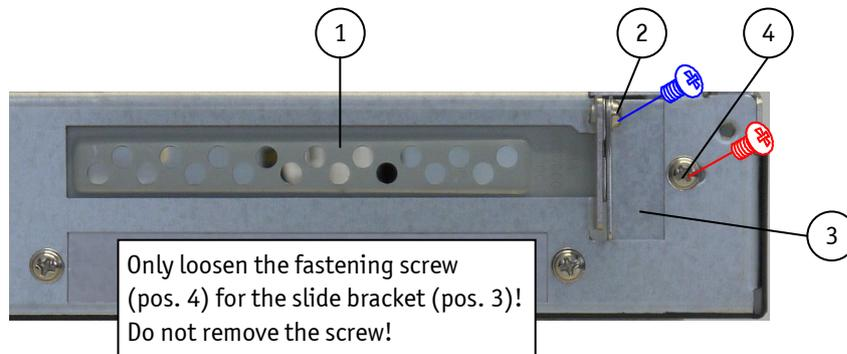

Fig. 17: Detail: Rear side with slide bracket closed (for fixing the expansion card/slot bracket)
5. In order to remove the slot or card bracket, remove the screw (Fig. 17, pos. 2). Retain the screw for later use. Loosen (turn 1/2 to the left) the fastening screw (Fig. 17, pos. 4) to unlock the slide bracket (Fig. 17, pos. 3).
10. Lock the slide bracket in this position by fastening the screw removed in step 5 (Fig. 17, pos. 2) firmly.